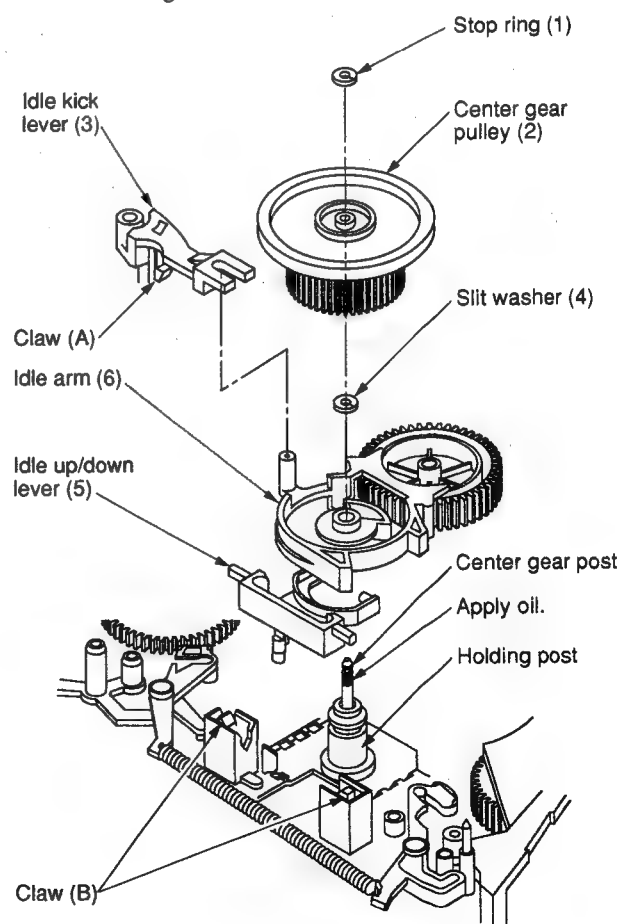

Fig. 6-34-1
- When mounting, push the cutout (A) on the holder center post assembly (2) aligning with the projection on the mechanical deck.
- Before mounting the center gear pulley, apply a few drops of oil. (Refer to Fig. 6-34-1.)